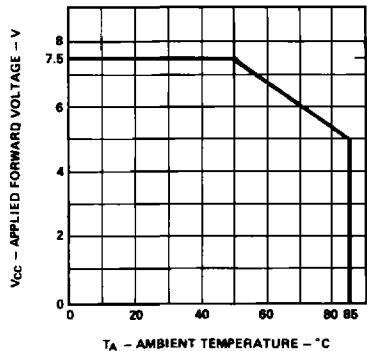

Figure 3. Maximum Allowed Applied Forward Voltage vs.
2. Derate from T_A = 50°C at 0.071 V/°C, see Figure 3.